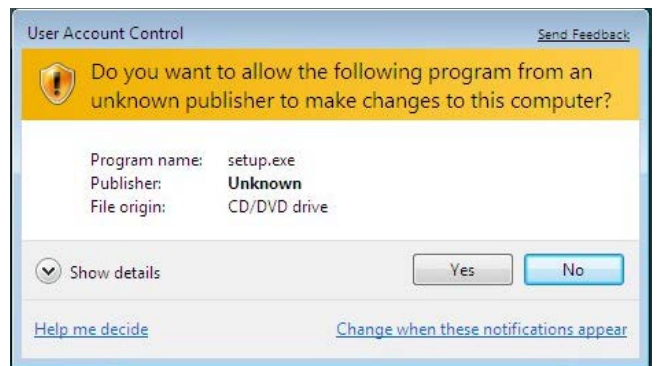

Figure 5. Granting Permission for the Program to Make Changes.
4. A dialog box appears asking for permission to allow the program to make changes to the computer (see Figure 5). Click **Yes**.